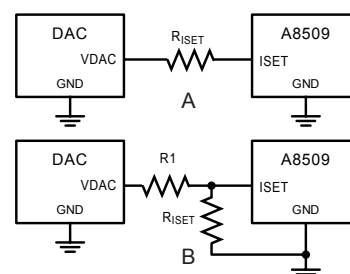

Figure 17. Typical application simplified diagram of voltage LED current control using a DAC to control LED current.
The A8509 can also be dimmed by using an external DAC or other voltage source applied either directly to the ground side of the R_{ISET} resistor or through an external resistor to the ISET pin (see figure 17). The ISET current can be varied in the range between 34 μ A and 130 μ A.
- For a single-resistor configuration (panel A of figure 17), the ISET current is controlled by the following formula:
- For a dual-resistor configuration (panel B of figure 17), the ISET current is controlled by the following formula: